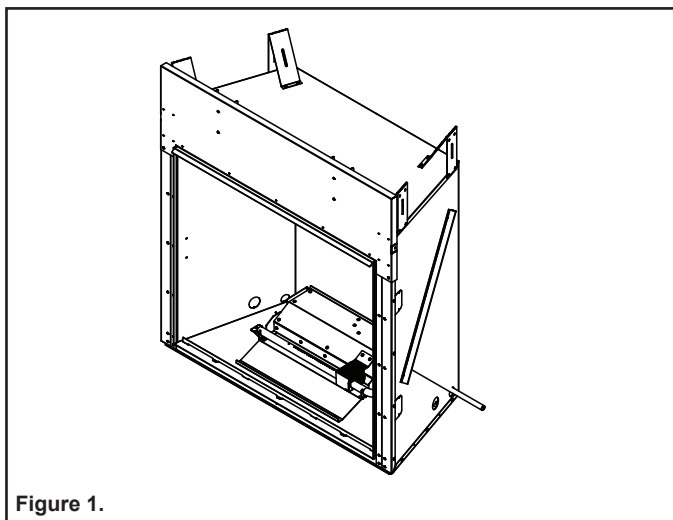

Figure 1.
4. Remove six (6) screws securing cover assembly from appliance, set aside. See Figure 1.
5. With the cover assembly removed, the tamper-proof torx screws can be accessed to remove the regulator. See Figure 1.